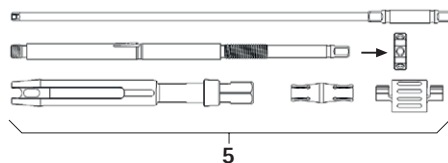

Fig. 3
- Disassembling percutaneous reduction lever 5, see Fig. 3. Fully disassemble reduction lever and unscrew lock nut.